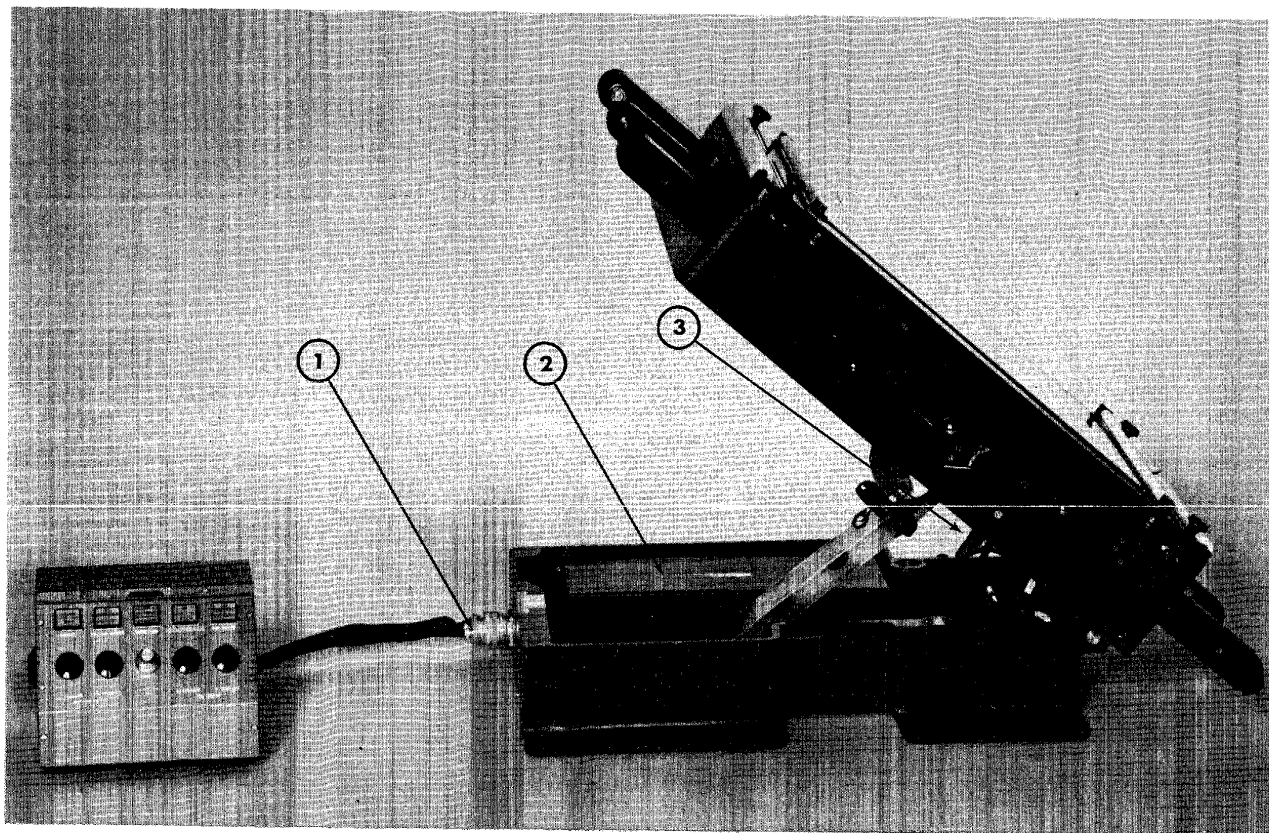
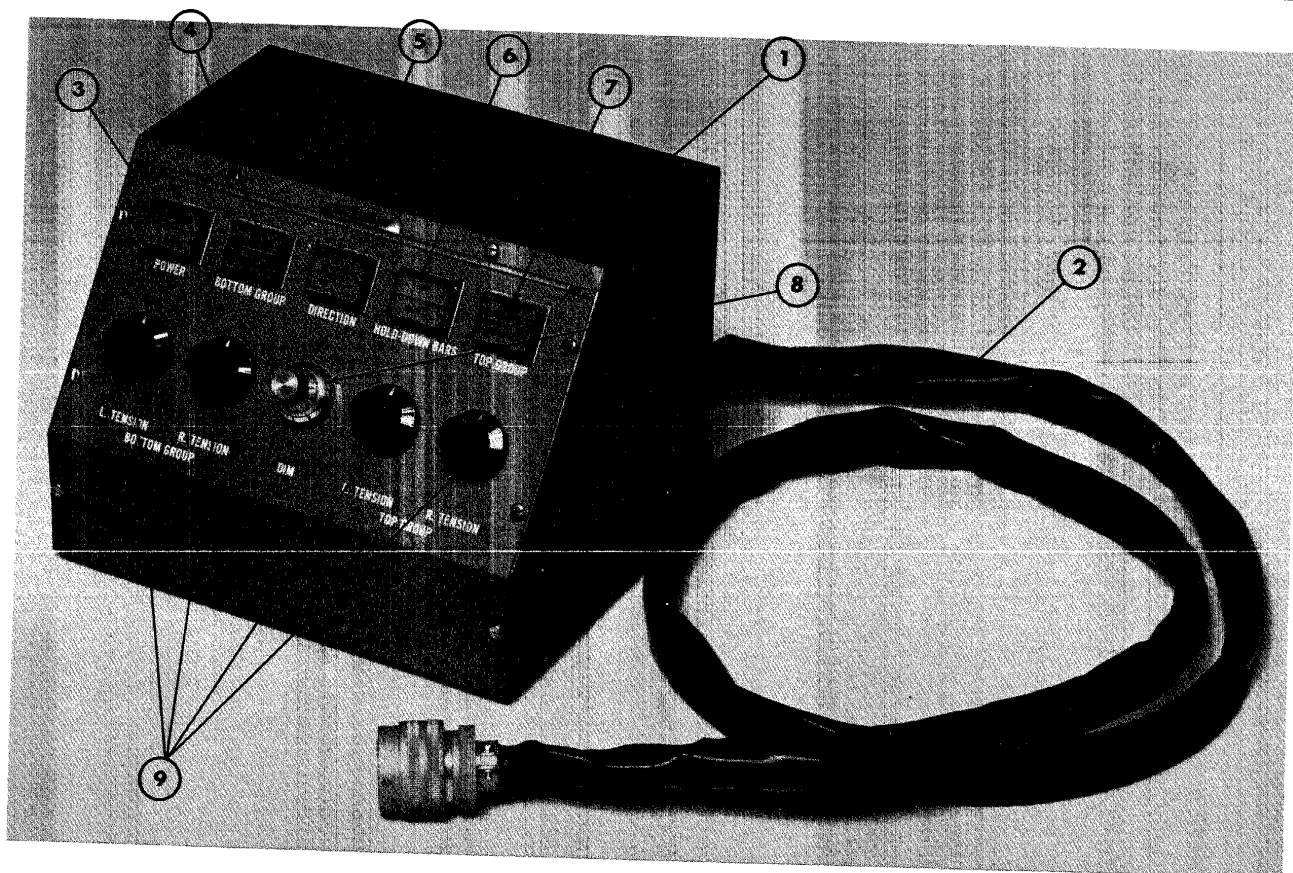

FIG. 1 ASSEMBLY
FIG. 3 CONTROL CONSOLE AND CABLE
- B. Connect the Master Control Panel Cable (#2 Figure 3) to the Master Control Console (#1 Figure 3) and the Light Table (#1 Figure 1) by attaching the respective cable connectors to their respective plugs.
SWITCH (#5, Figure 3) MUST BE IN THE
1. The "Power" switch is used to turn ON & OFF (#3, Figure 3).
2. The "Bottom Group" switch controls the bottom film transporting system (#4, Figure 3).
3. The "Direction" switch controls and indicates the mode of film travel (#5, Figure 3).
4. The "Hold-Down Bars" switch controls the film bars (#6, Figure 3).
5. The "Top Group" switch controls the top film transporting system (#7, Figure 3).
The viewing surface of the Light Table can be tilted about its end from horizontal to a position of 15° measured from the vertical, by turning the hand crank (#3, Figure 1). After the table is positioned at the desired vertical viewing angle, lock the brake.